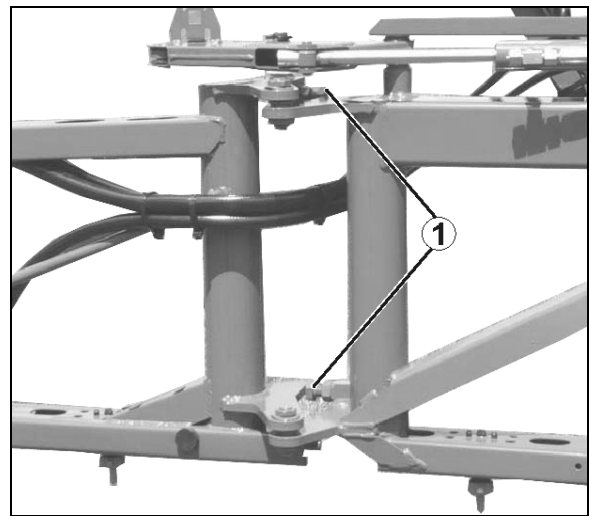

Fig. 187
1. Release the lock nut of the adjusting screw (Fig. 187/1).